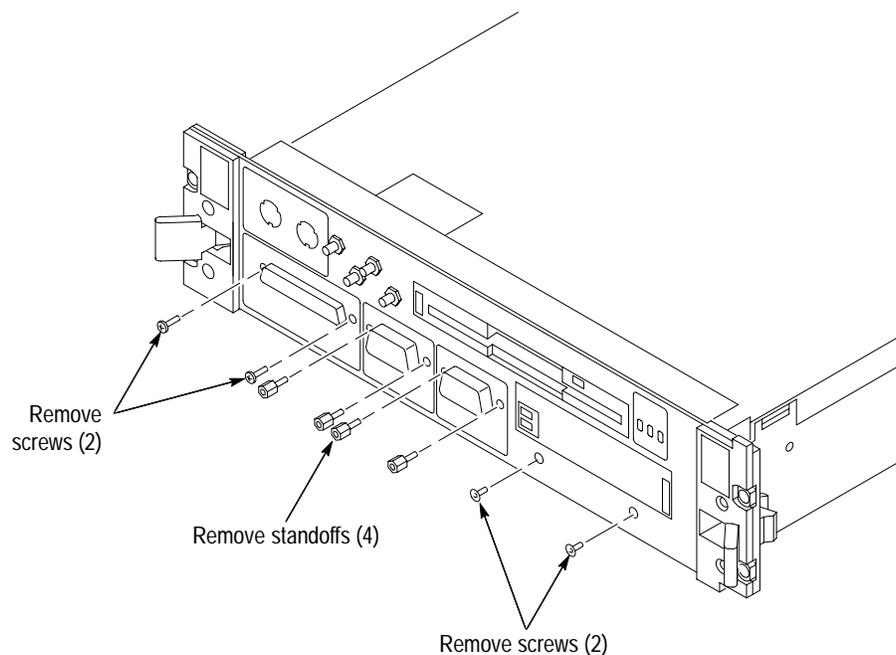

Figure 6: Front panel hardware removal
6. Remove the four 3/16 inch standoffs from the SVGA OUT and COM connectors. (See Figure 6.)